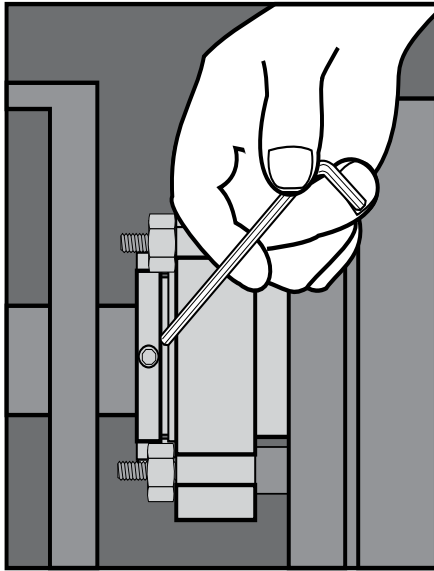

Figure 5
2.7 With the impeller, shaft, coupling, and bearings in their final operating positions, tighten the drive collar set screws. See Figure 5.